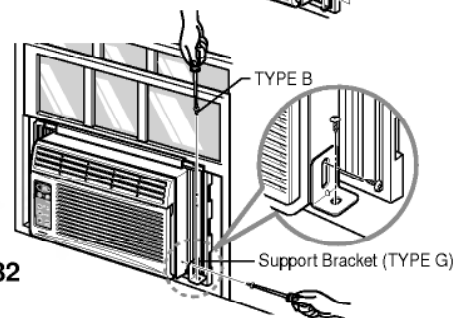

Figure 32
- b. Fasten the suport bracket (TYPE G) using a removed screw. Attach the suport bracket (TYPE G) in the inner window sill with a screw (TYPE B), as shown Fig. 32.